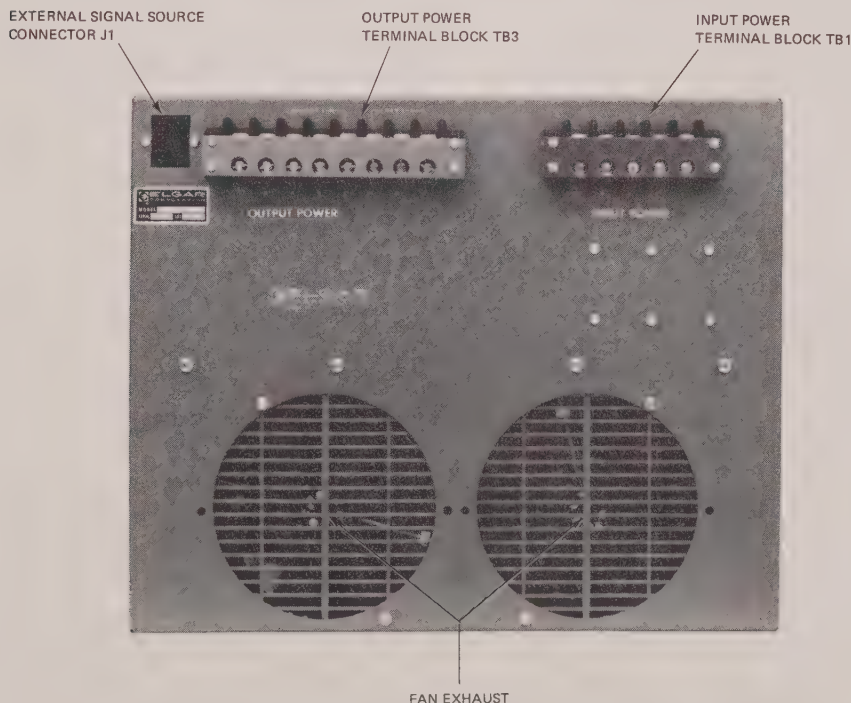
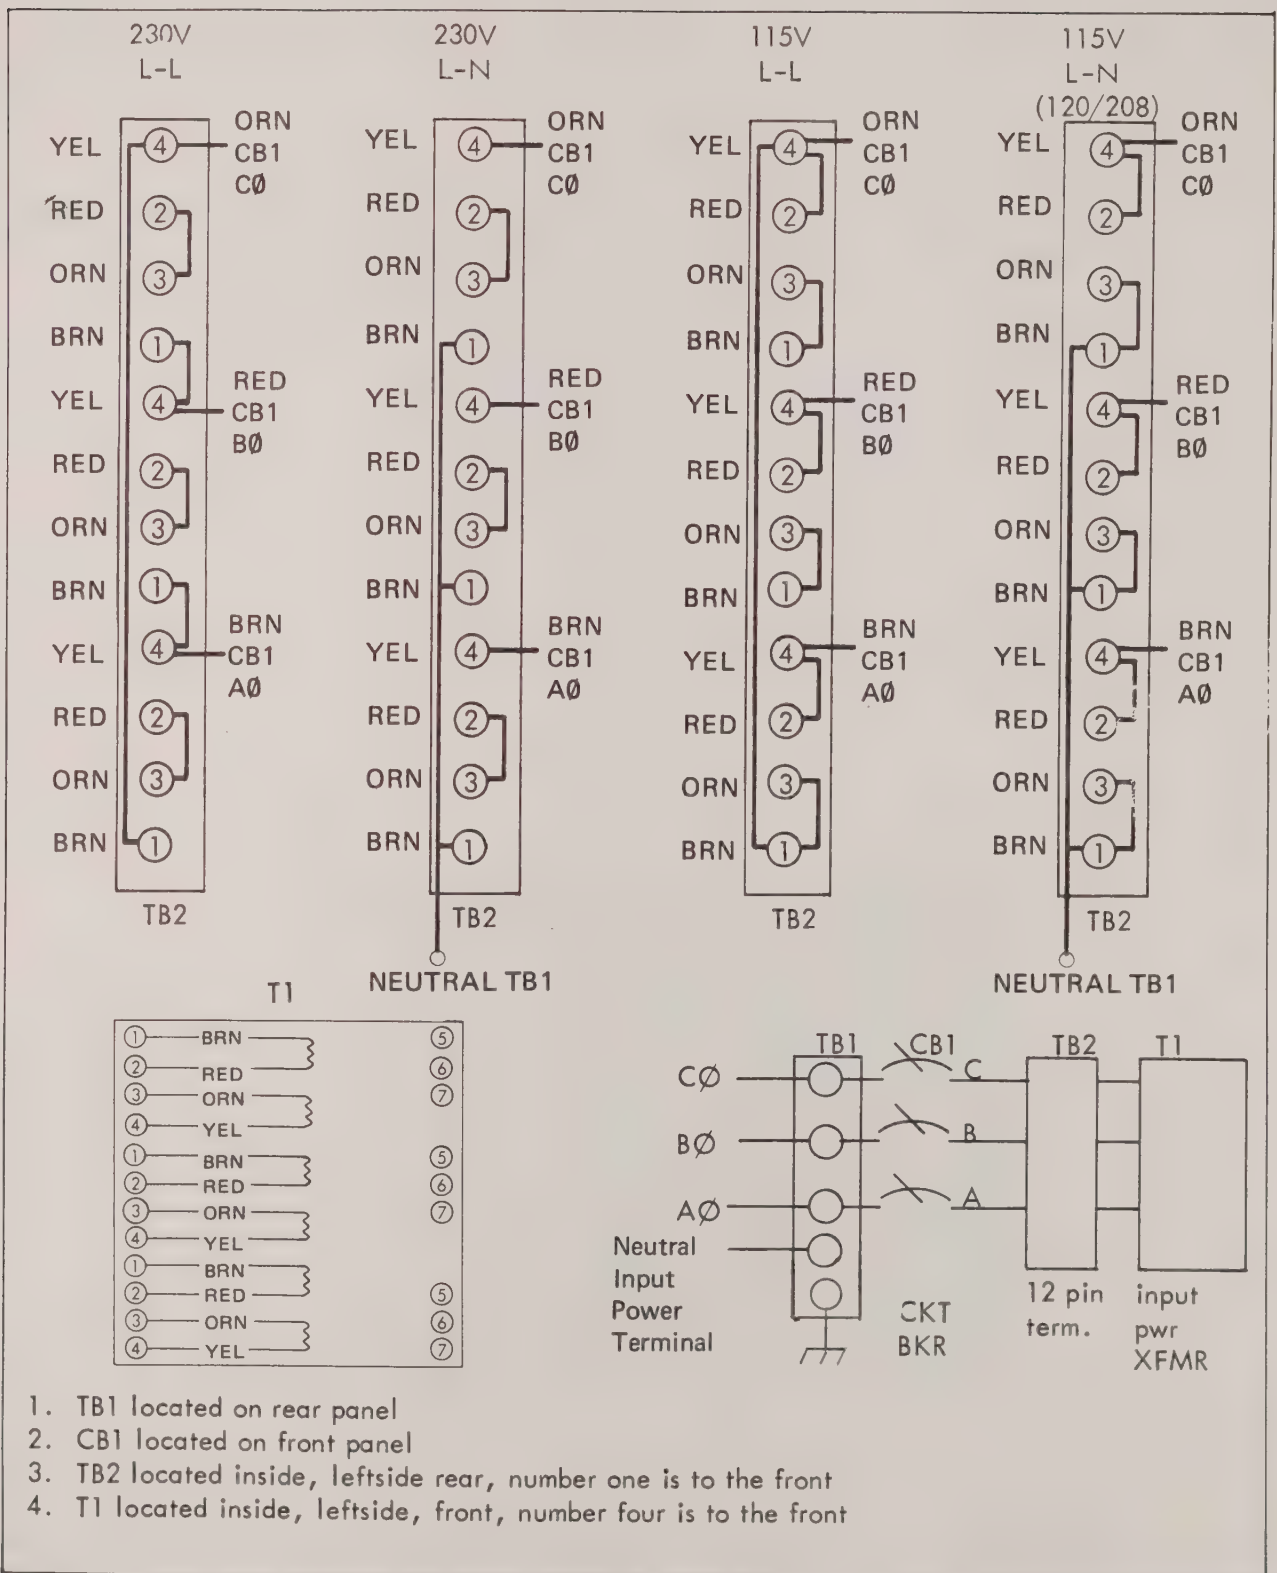

FIGURE 2-2. REAR PANEL POWER CONNECTIONS
Figure 2-3. Input Power Configuration, Model 1753A.
2-8. The Model 1753A operates from 115 or 230 VAC line to line or line to neutral three phase input power at 47-63 Hz power with 400 Hz input power available on special order. Refer to Figure 2-2 regarding location of input power terminal block containing the primary tap connections. See Figure 2-3 for information regarding proper transformer tap configuration suitable for the input line to be used with the Model 1753A.
6. Connect the input power to the terminal board on the rear panel. Make certain available power agrees with internal input power connections (see Figure 2-3).